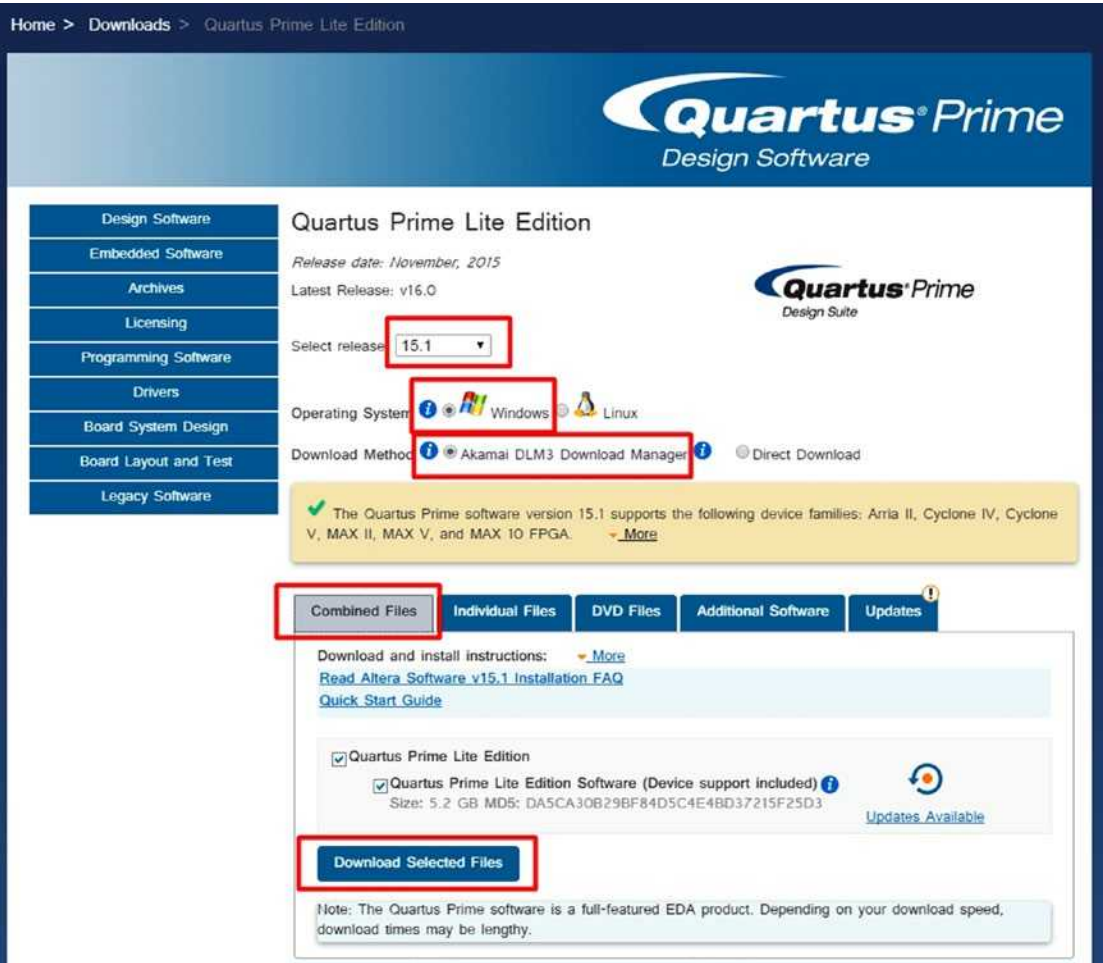
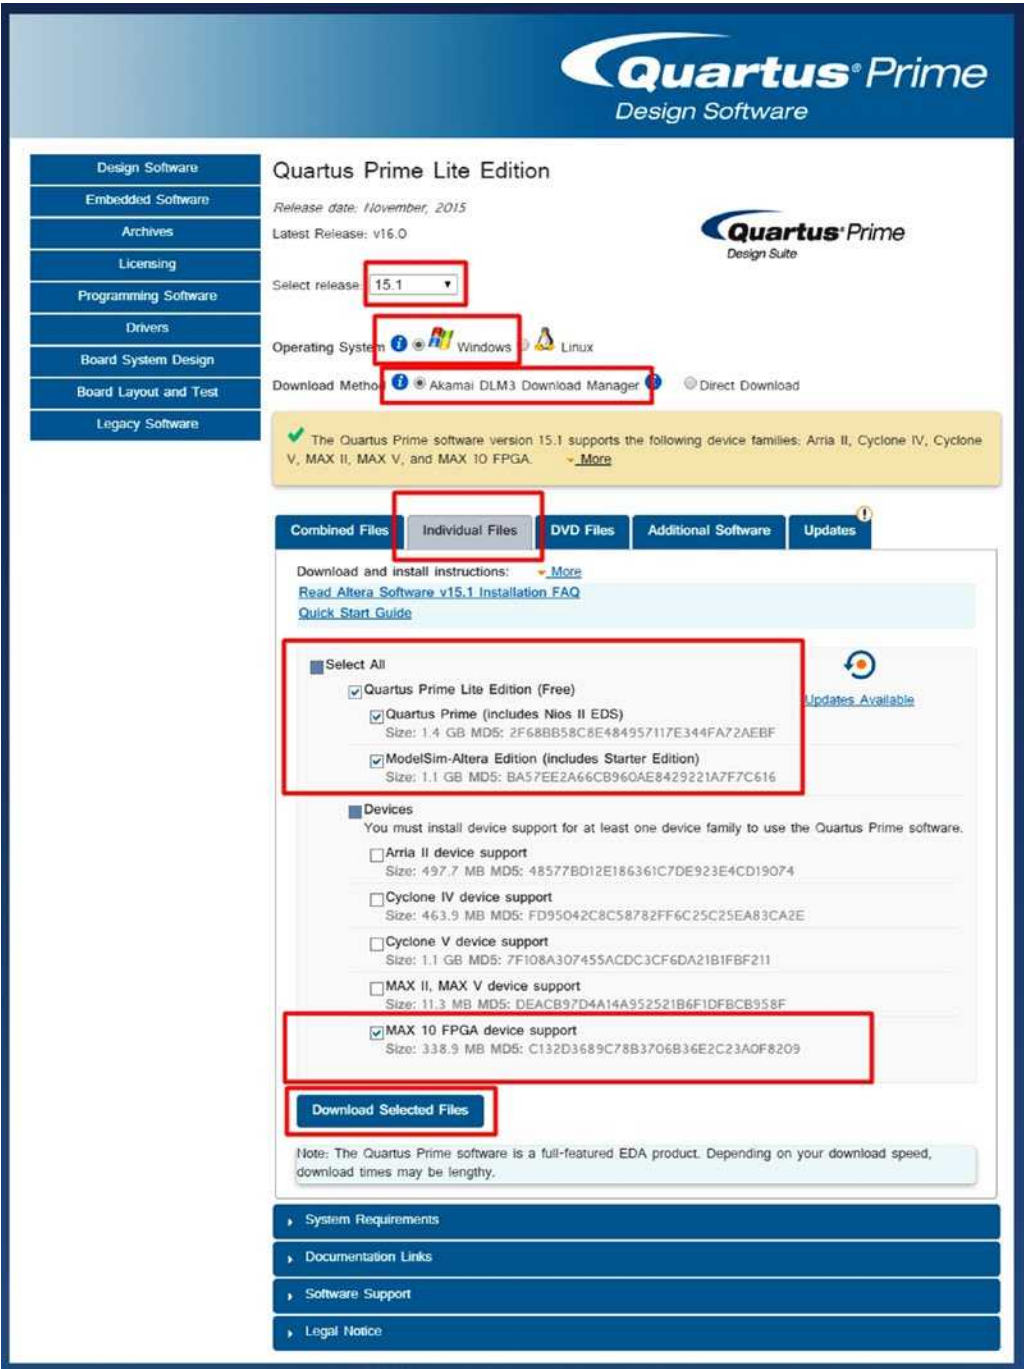

Figure 3-6. Altera Quartus Prime Lite Edition selection page—Combined Files with Akamai DLM3 Download Manager
Figure 3-7. Altera Quartus Prime Lite Edition selection page—Individual Files with Akamai DLM3 Download Manager
3. I suggest you download everything: click the **Combined Files** tab which is shown in Figure 3-6. If you have trouble downloading as one big file, then click the **Individual Files** tab which is shown in Figure 3-7. Regardless of which method you choose, you must select release version 15.1. Be sure to download the same version we are using.